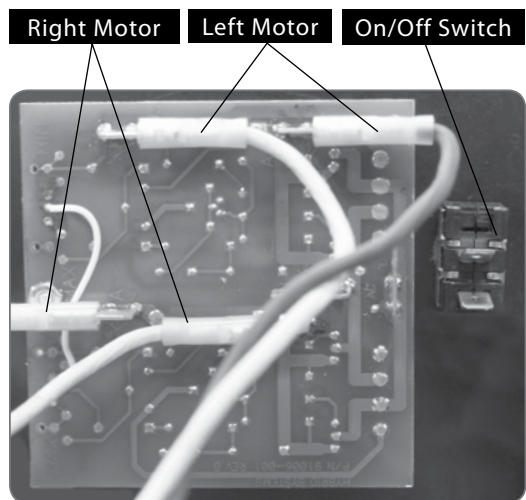
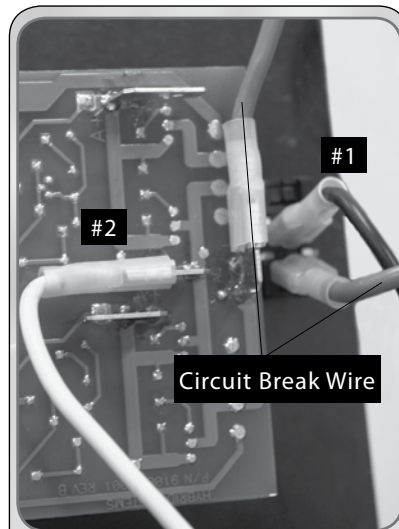

Figure 14 Wiring diagram for all two motors.
Figure 13
5. Remove four screws holding the controller into the control box casting. Note the position of the motor wires on the controller, then disconnect the wire for the motor to be replaced (See Figure 14 on page 13).
3. Remove four screws holding controller faceplate into main casting. Note the position of the main power and motor wires on the controller, then disconnect the wires. See Figure 14 for the two motor wires. See Figure 13 for the main power cord wires.
Be sure wires are correctly reinstalled. Motor wire connectors are different sizes. Be sure they are installed on the correct size terminal. See Figure 14 for the two motor wires and Figure 13 for the power cord wires.